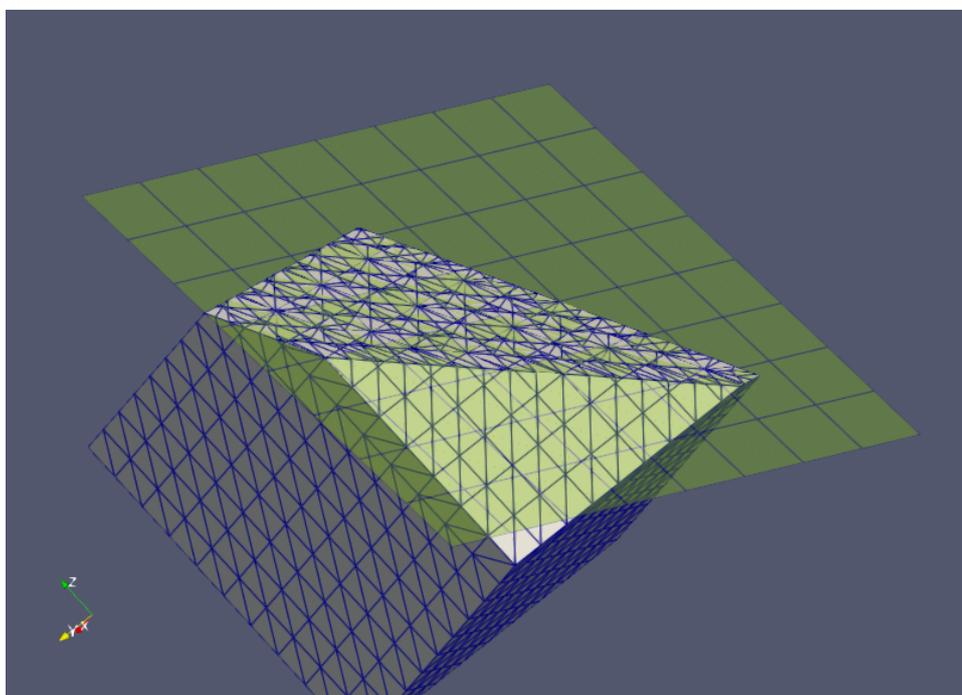

Fig. 2.54: Clip also the blocks (cells) of the model - with the effect that they are not any more cuboids
- The **Clip cells** option, if applied to block models, will clip also those blocks (cells) that are cut by the clipping plane - with the effect, that they are not any more cuboids at the end: Fig. 2.54